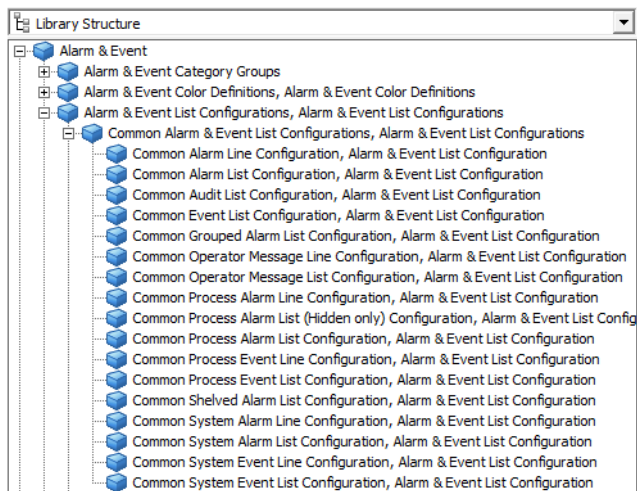

Figure 151. Default Alarm and Event List Configuration
1. Select the Alarm and Event List Configuration aspect in the Library Structure which you want to modify (see Figure 151). It is recommended to make a copy of the original list and modify the copy.
The **Common Grouped Alarm List Configuration** in **Library Structure > Alarm and Event > Alarm and Event List Configurations** (see Figure 151) applies to the System 800xA 5.1 Feature Pack release only.